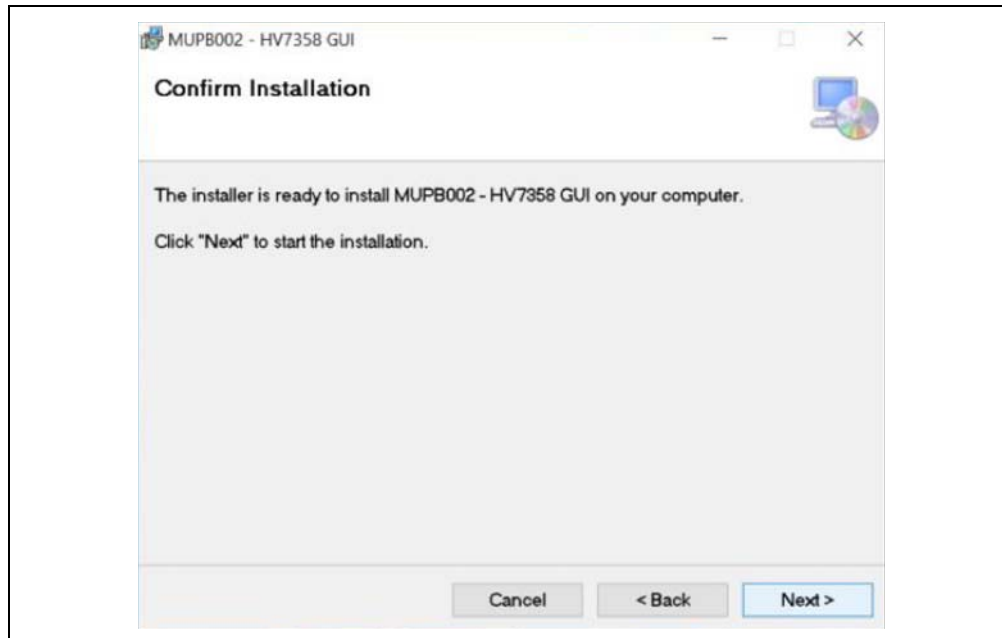

FIGURE 2-13: *Installation Confirmation.*
5. The next window, shown in Figure 2-13, confirms that you are ready to install the HV7358 GUI. If so, click **Next**; otherwise, you can go back and make changes or **Cancel**.